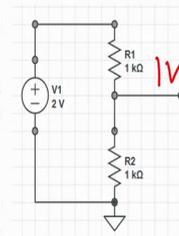

Figure 1
- In the Figure 1 shown below, in a resistive divider circuit if R2 is considered as a sensor any change in R2 resistance results in voltage change. For R2 = 1 KΩ, the output voltage is 1 V